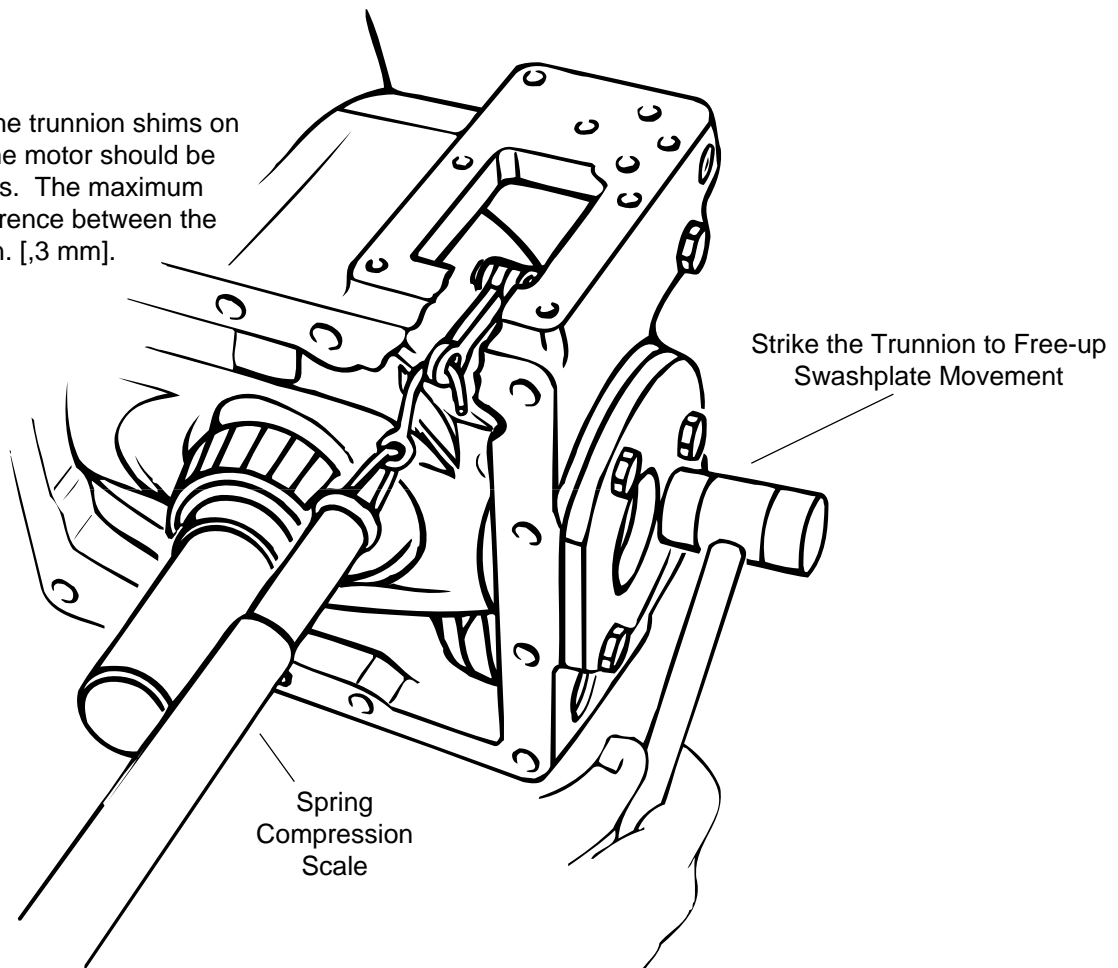

Figure 25
**74** Measure the swashplate breakaway force with a spring compression scale. Attach the scale to the feedback linkage as shown in figure 25. A swashplate breakaway force of 2 to 5 lb [9 to 2,3 Kg] is required. Add or subtract trunnion shims as needed.